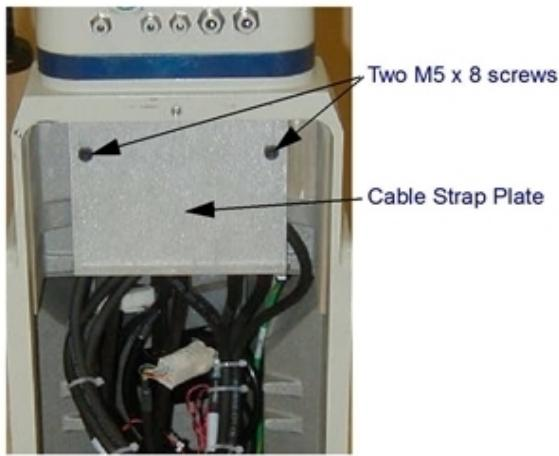

Figure 6-12. Removing the Cable Strap Plate
11. Remove the cable strap plate by removing two screws and split washers. See Figure 6-12. This allows the harness to move when you lift the J1 cover in the next step.